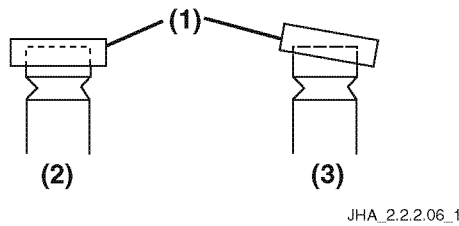

Figure 4-12
8. If there is excessive clearance, check the valve for any inclination of the valve cap (Figure 4-12, (1)), dirt or excessive wear.